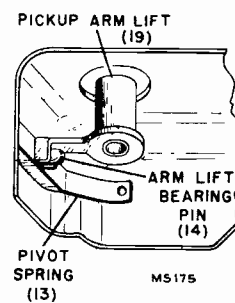

FIG. 6
1. With the mechanism out of cycle, lift tone arm and check, and make certain tone arm lift 19 engages pin 14 as shown in fig. 6.